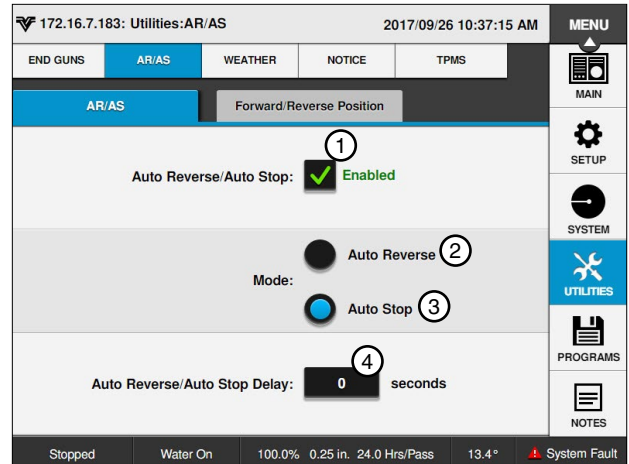

Figure 69-1 1. AR/AS Enabled 2. Auto Reverse 3. Auto Stop 4. Auto Reverse Delay
1. Push **Menu**, **Utilities**, and **AR/AS** to display the AR/AS screen. Refer to Figure 69-1.